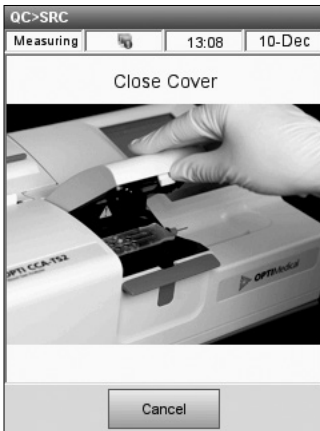

Fig. 4-7 Close Cover
7. Close the sample chamber cover (Fig. 4-7).